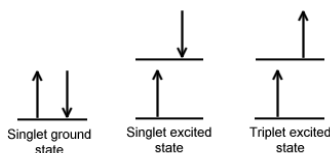
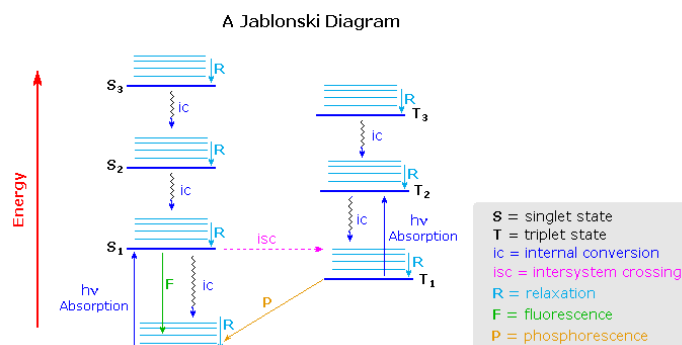

Figure 5.1.1: Spin in the ground and excited states.
Figure 5.1.2: Partial Jablonski Diagram for Absorption, Fluorescence, and Phosphorescence. from Bill Reusch.
Singlet state is defined when all the electron spins are paired in the molecular electronic state and the electronic energy levels do not split when the molecule is exposed into a magnetic field. A doublet state occurs when there is an unpaired electron that gives two possible orientations when exposed in a magnetic field and imparts different energy to the system. A singlet or a triplet can form when one electron is excited to a higher energy level. In an excited singlet state, the electron is promoted in the same spin orientation as it was in the ground state (paired). In a triplet excited state, the electron that is promoted has the same spin orientation (parallel) to the other unpaired electron. The difference between the spins of ground singlet, excited singlet, and excited triplet is shown in Figure 5.1.1. Singlet, doublet and triplet is derived using the equation for multiplicity, $2S+1$, where S is the total spin angular momentum (sum of all the electron spins). Individual spins are denoted as spin up ($s = +1/2$) or spin down ($s = -1/2$). If we were to calculate the S for the excited singlet state, the equation would be $2(+1/2 + -1/2)+1 = 2(0)+1 = 1$, therefore making the center orbital in the figure a singlet state. If the spin multiplicity for the excited triplet state was calculated, we obtain $2(+1/2 + +1/2)+1 = 2(1)+1 = 3$, which gives a triplet state as expected.
There are numerous vibrational levels that can be associated with each electronic state as denoted by the thinner lines. Absorption transitions (blue lines in Figure 5.1.2) can occur from the ground singlet electronic state (S_0) to various vibrational levels in the singlet excited vibrational states. It is unlikely that a transition from the ground singlet electronic state to the triplet electronic state because the electron spin is parallel to the spin in its ground state (Figure 5.1.1). This transition leads to a change in multiplicity and thus has a low probability of occurring which is a **forbidden transition**. Molecules also go through vibration relaxation to lose any excess vibrational energy that remains when excited to the electronic states (S_1 and S_2) as demonstrated in wavy lines in Figure 5.1.2. The knowledge of forbidden transition is used to explain and compare the peaks of absorption and emission.
A molecule that is excited can return to the ground state by several combinations of mechanical steps that will be described below and shown in Figure 5.1.2. The deactivation process of fluorescence and phosphorescence involve an emission of a photon radiation as shown by the straight arrow in Figure 5.1.2. The wiggly arrows in Figure 5.1.2 are deactivation processes without the use of radiation. The favored deactivation process is the route that is most rapid and spends less time in the excited state. If the rate constant for fluorescence is more favorable in the radiationless path, the fluorescence will be less intense or absent.
- **Intersystem Crossing:** Intersystem crossing is a process where there is a crossover between electronic states of different multiplicity as demonstrated in the singlet state to a triplet state (S_1 to T_1) on Figure 5.1.1. The probability of intersystem crossing is enhanced if the vibration levels of the two states overlap. Intersystem crossing is most commonly observed with molecules that contain heavy atom such as iodine or bromine. The spin and orbital interaction increase and the spin become more favorable. Paramagnetic species also enhances intersystem crossing, which consequently decreases fluorescence.